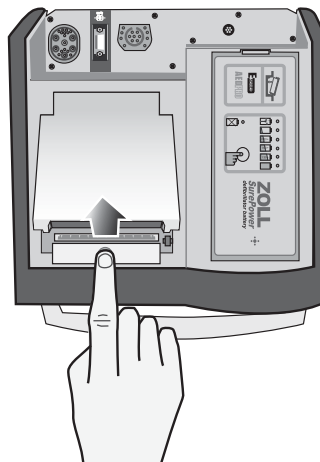

Figure 12-5. Opening the Printer Door
1. Press the release button, and allow the printer door to open (see Figure 12-5); then remove any paper.